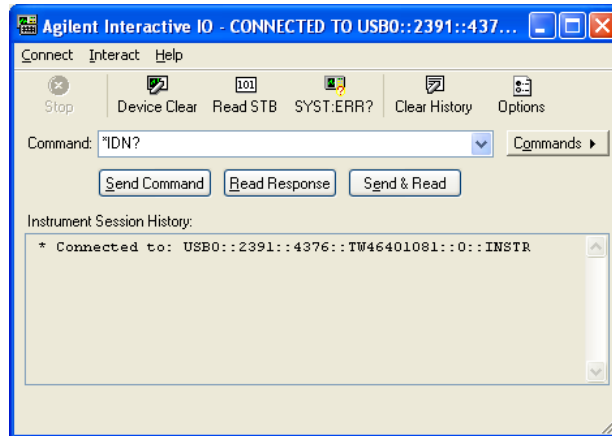

Figure 5-3 Interactive IO dialog box
- 5 The **Agilent Interactive IO** dialog box will appear as shown in Figure 5-3. Click **Send & Read** to send the “*IDN?” default command. This instrument’s response should appear in the **Instrument Session History** panel.